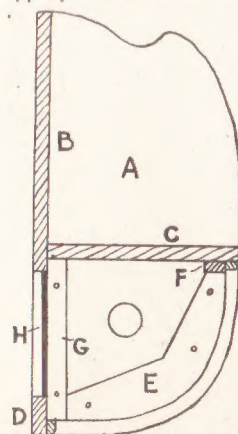
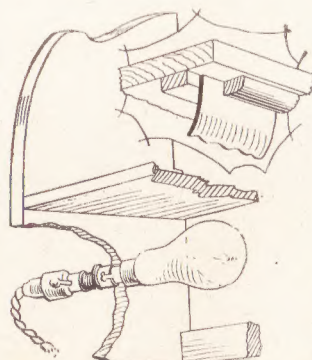

Fig. 2—End section
Fig. 6—Light fixing
Next prepare the lower rail (D). This will be 10 $\frac{1}{2}$ ins. long but only 1in. wide. The intervening space between this rail and rail (B) above is filled with a piece of spare thin plywood or ordinary $\frac{3}{4}$ in. wood, shown as (H) in Fig. 2. It should not be fitted and fixed until all the rest of the work is finished, as it really forms a removable panel for getting to the lamp inside. Otherwise once the curved front is fixed, this back panel will form the only means of access for the renewal of bulb or for repairs. Fix the rail (D) by driving screws through the ends into it the same as the shelf above.
To form a fixing for the top edge of the curved paper front of the lamp, a strip of small section wood as $\frac{3}{4}$ in. by $\frac{1}{2}$ in. must be fitted between the pieces (E) and glued to the underside of the shelf. The strip is seen as (F), in the section, Fig. 2, and again in the detail, Fig. 6. The latter diagram also shows how the paper is glued to the strip and held securely by a fixing bead nailed on underneath the shelf.
The front fixing bead, however, should greatly reinforce the fixing. In Fig. 6 we include a sectional view, showing how the electric bulb is installed. Assuming the panel (H) has not